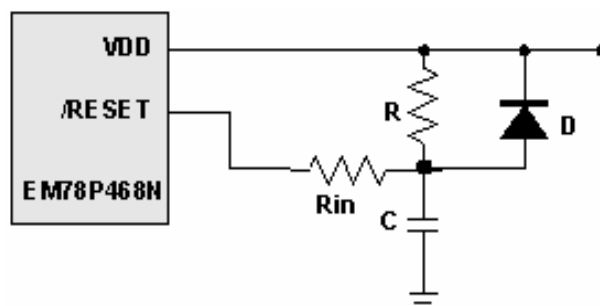

Fig. 6-10 External Power-on Reset Circuit
This circuit implements an external RC to produce a reset pulse (see Fig. 6-10). The pulse width (time constant) should be kept long enough to allow VDD to reach minimum operation voltage. This circuit is used when the power supply rise time is slow. Because the current leakage from the /RESET pin is $\pm 5\mu\text{A}$, it is recommended that R should not be greater than 40K. In this way, the voltage at Pin /RESET is held below 0.2V. The diode (D) acts as a short circuit at power-down. The capacitor, C, is discharged rapidly and fully. Rin, the current-limited resistor, prevents high current discharge or ESD (electrostatic discharge) from flowing into Pin /RESET.